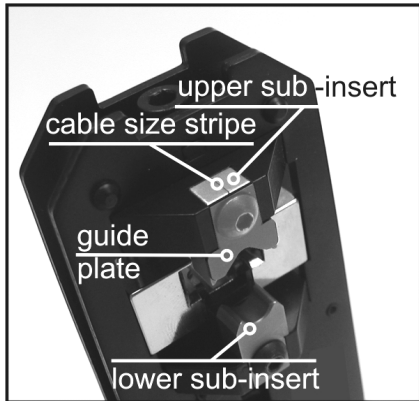

Fig.1.
- ❑ Fig.1. clarifies terms "upper sub-insert" and "lower sub-insert" necessary for correct tool preparation. Using the inappropriate combination of sub-inserts and cable size (O.D.) may result with false crimp, and tool damaging for which the manufacturer can not be held responsible.
- ❑ Always remember to reattach guide plate (Fig.1). Failing to do so may influence normal tool functioning.